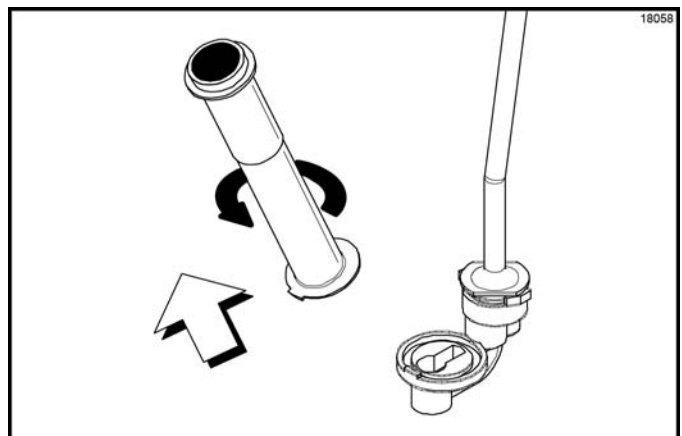

Figure 6-99
11. Remove the cylinder from the valve body. (See Figure 6-99.)